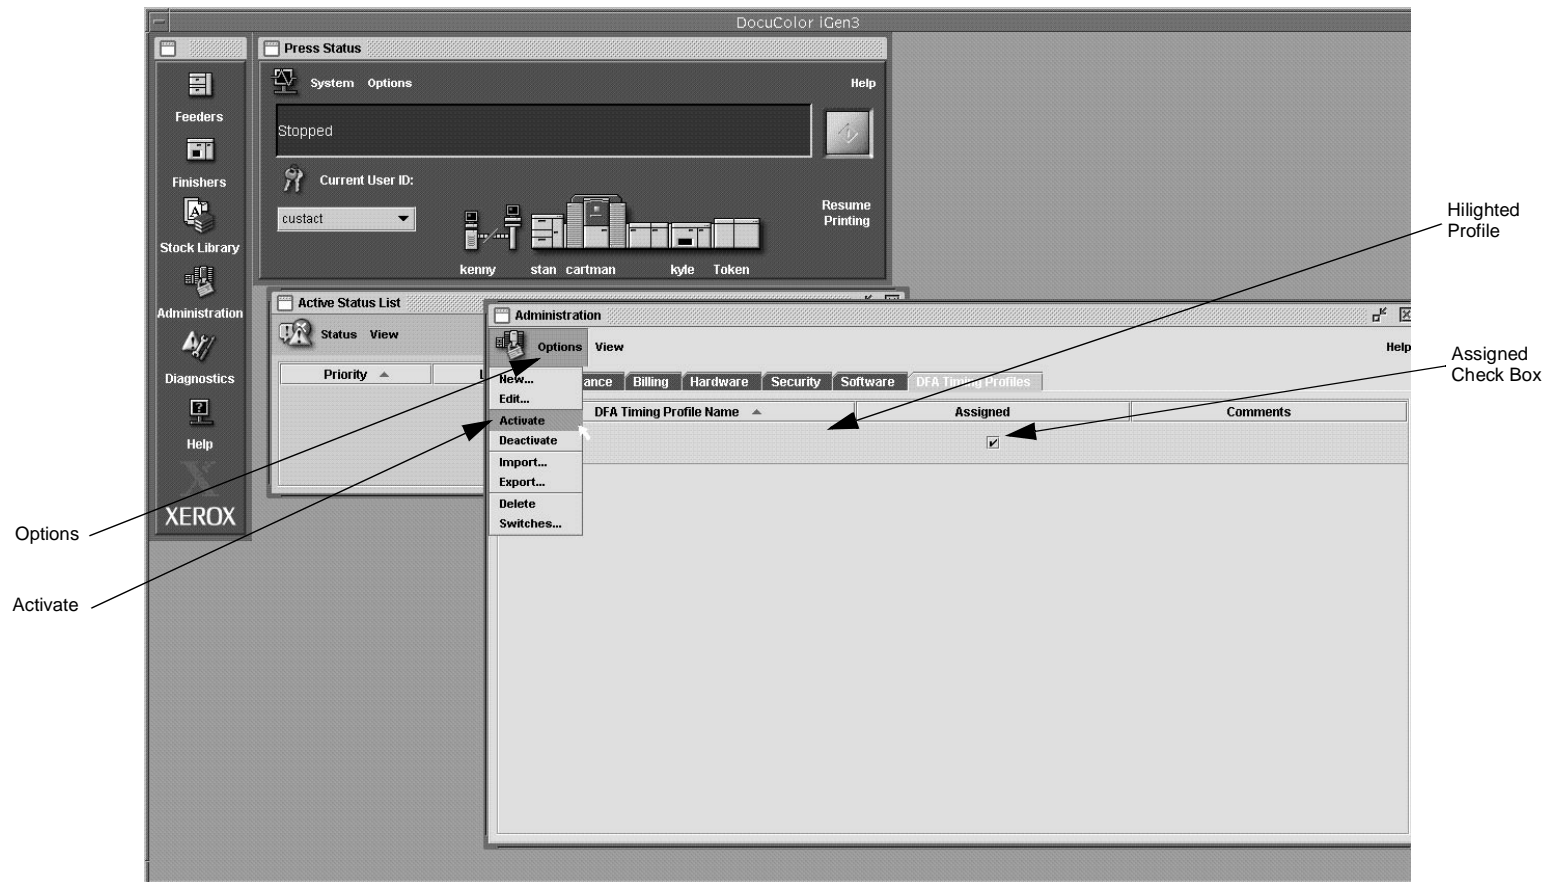

Figure 6-61 DFA Profile Activation
8. Hi-light the Profile that you setup by clicking on it, and then select **Options**, this will bring up a drop down list, now select **Activate**. If this is completed correctly, you will see a check mark in the assigned box, as shown in Figure 6-61.